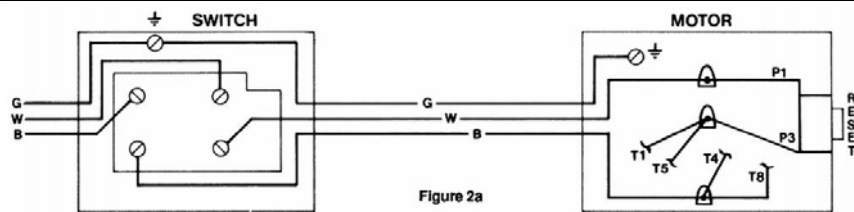
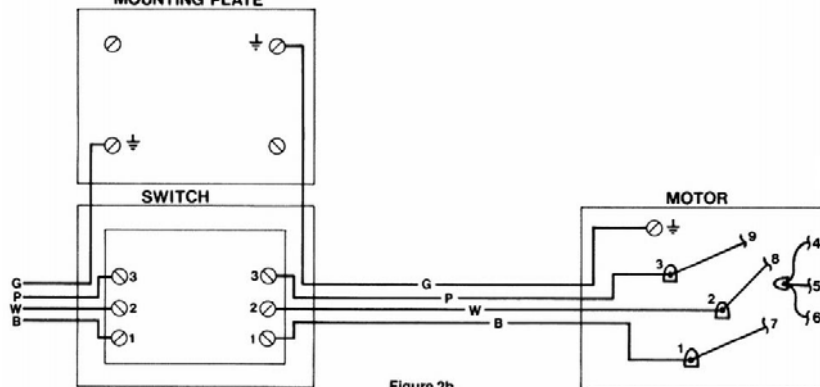

Figure 2a
Figure 2b
- b. On electric models, attach bracket to the handle with screws and lockwashers provided. Wiring diagrams shown are for reference only: Figure 2a is for 220 volt and figure 2b is for 440 volt.